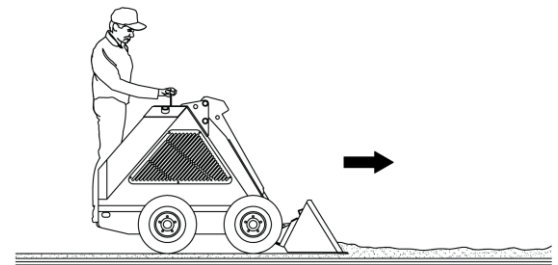

Fig. 14
2. Drive machine forward slowly and continue to tilt bucket forward until it enters the ground to desired depth and then tilt it back a small amount to keep an even depth, as shown in Figure 14.